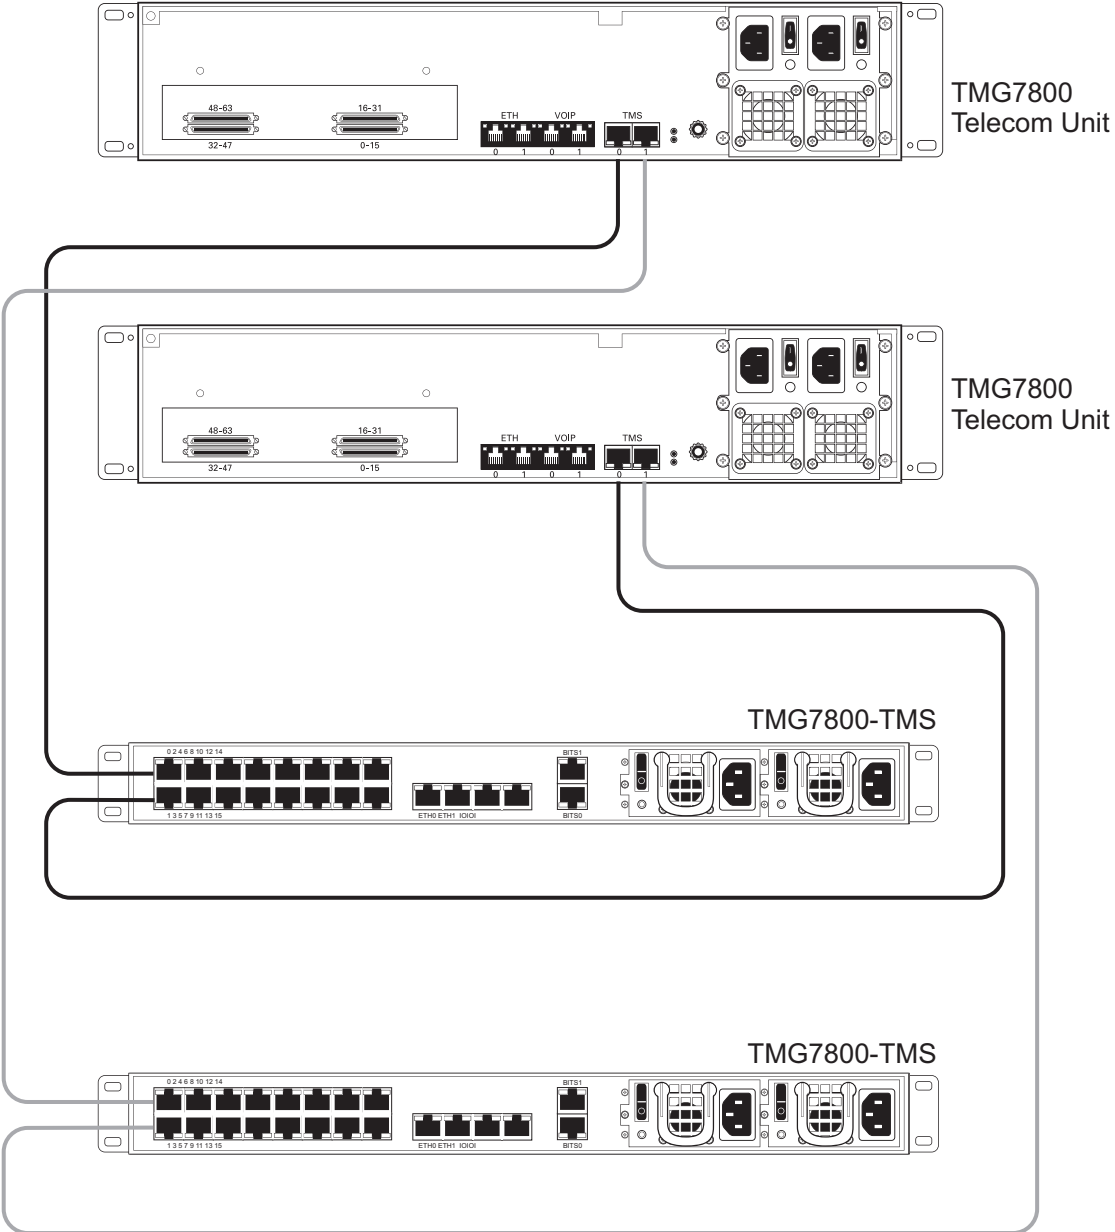

Figure 2.27 Example of Interconnecting 2 TMG7800 Telecom Units to an active and standby TMG7800-TMS
1. Start with the TMG7800 Telecom Unit at the topmost position of the equipment rack and connect a CAT7 shielded Ethernet crossover cable to the TMS0 connector at the rear of the TMG7800 Telecom Unit, figure 2.27 on page 37. Connect the other end of the same CAT7 cable to the first port of the first TMG7800-TMS.
2. If your system employs a second TMG7800-TMS, connect a second CAT7 shielded Ethernet crossover cable to TMS1 at the rear of the TMG7800 Telecom Unit, figure 2.27 on page 37. Connect the other end of the same CAT7 cable to the first port of a second TMG7800-TMS.